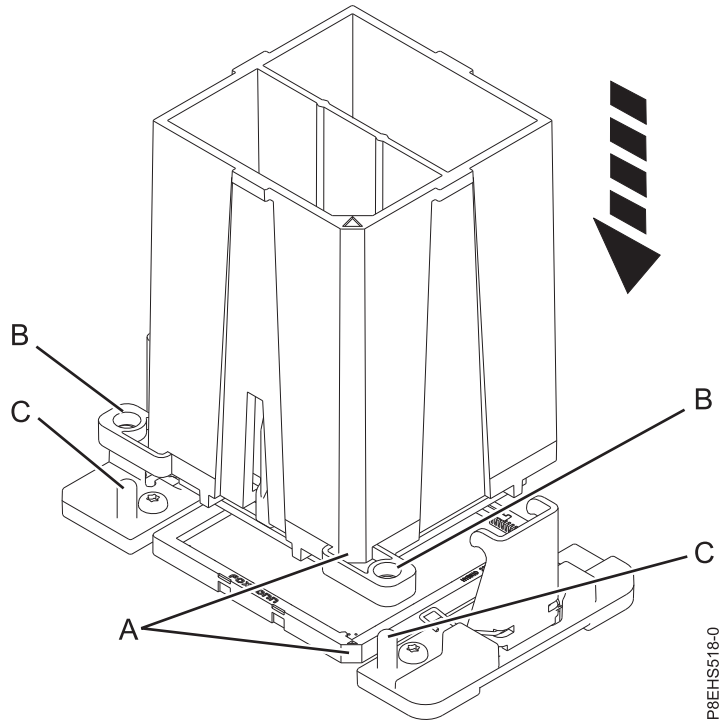

Figure 75. Installing the system processor module
- b. Lower the tool and system processor module onto the socket. Align the beveled corner (**A**) of the tool with the beveled corner on the socket. Ensure that the two guide pins (**C**) are inserted into the alignment holes (**B**) on each side of the tool. Use care to lower the tool evenly without tilting the tool. See Figure 75 on page 76.